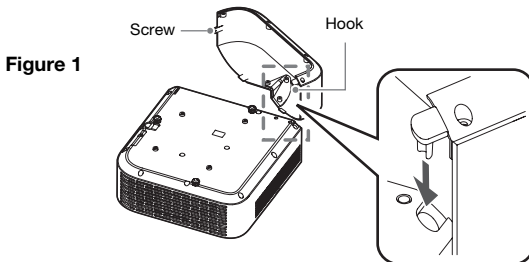

Figure 2
4. Rotate the cable cover in the direction indicated by the arrow in Figure 2 to attach it to the projector.